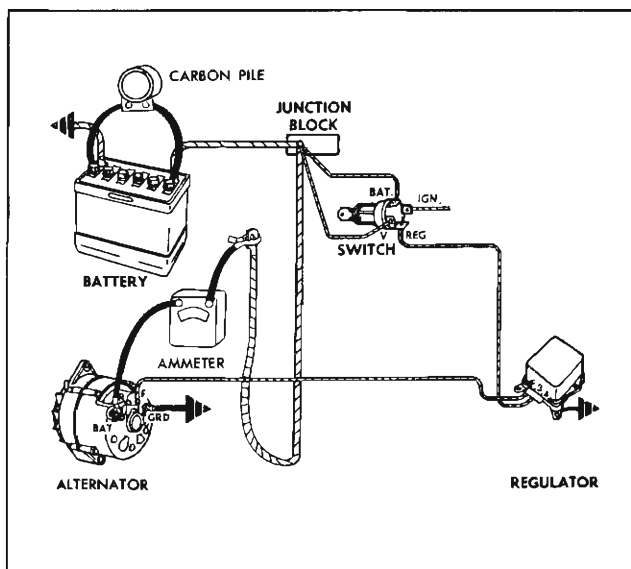

Fig. 11-24 Measuring Output
2. Connect an ammeter in series in charging circuit at the alternator output terminal (BAT) as shown in Fig. 11-24.